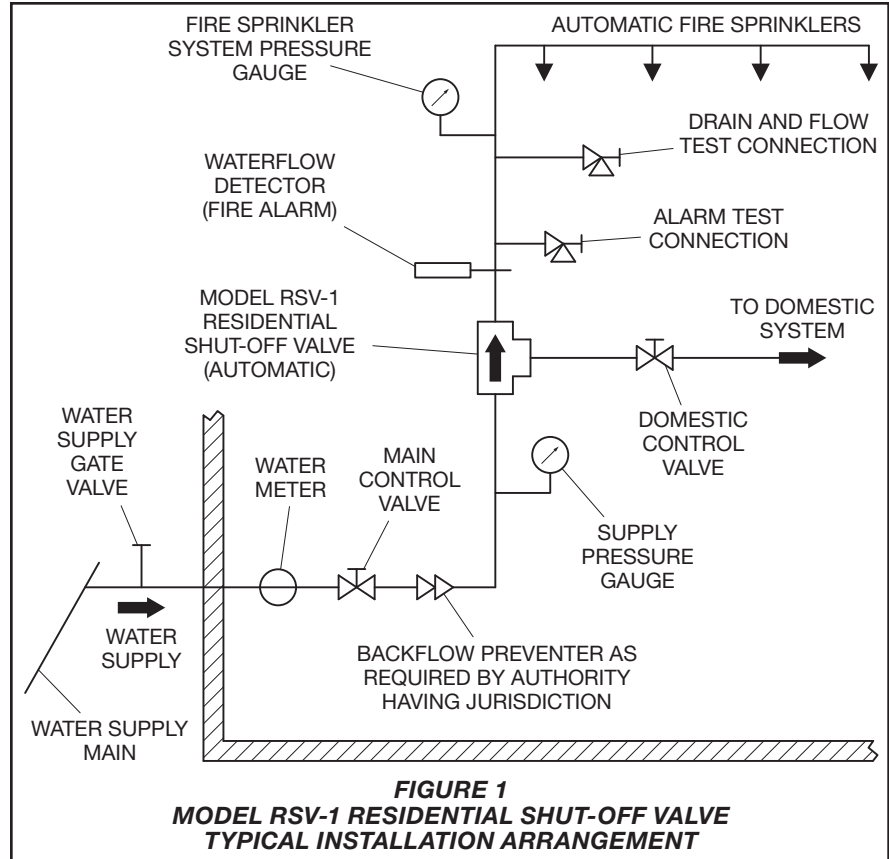

FIGURE 1
The TYCO RAPID RESPONSE Model RSV-1 Residential Shut-Off Valve must be installed vertically with the Water Supply Port at the bottom, the Fire Sprinkler Port at the top, and the Domestic Port at the side (Ref. Figures 4 and 5). Figure 1 shows the typical installation arrangement. Refer to the Installation section for additional design considerations.
Figure 1 illustrates a typical installation arrangement using the TYCO RAPID RESPONSE Model RSV-1 Residential Shut-Off Valve. The arrangement may need to be modified to meet the requirements of the authority having jurisdiction. However, the Model RSV-1 Valve must be installed in accordance with this section.
Step 4. The Drain and Flow Test Connection (Ref. Figure 1) is recommended to be a minimum 1/2 inch (DN15) size for systems per NFPA 13D, and it must be a minimum 1 inch (DN25) size for systems per NFPA 13R.
Perform steps 1 through 9 when initially filling the fire sprinkler and domestic system piping with water or after a fire sprinkler operation (Ref. Figure 1).